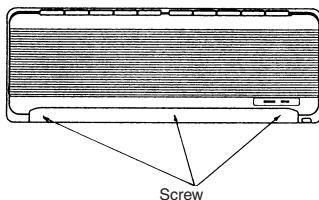

Fig. 3-12
3.6. Remove the front panel (Fig. 3-12)